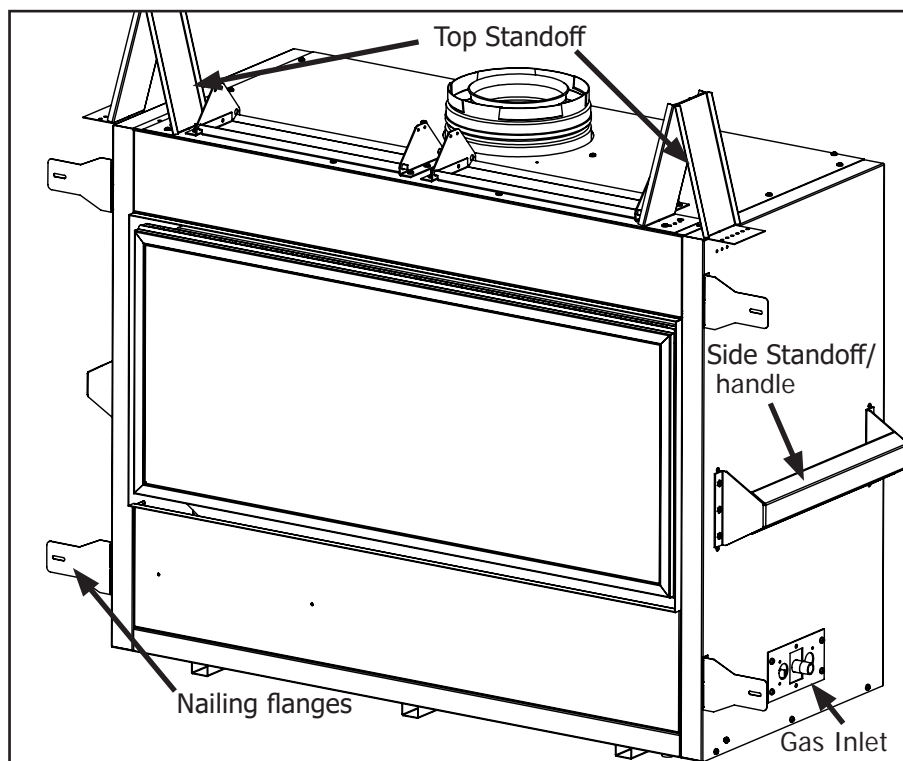

Figure 14: Fireplace Install Preperation
- The top framing standoffs will need to be folded up and secured on both sides with T-20 screws (see figure 14).
- The side framing standoffs for this unit also double as handles for positioning and lifting. Install them as shown in figure 14.